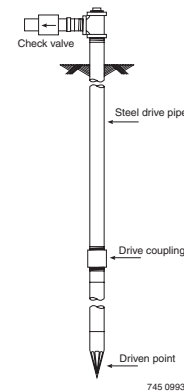

FIGURE 2 - DRIVEN POINT INSTALLATION
1. Connect the suction pipe to the drive point (Figure 2). Keep horizontal pipe run as short as possible. Use PTFE pipe thread sealant tape on male pipe threads. Multiple well points may be necessary to provide sufficient water to pump.
2. To aid priming with well point installations, install a check valve as shown in Figure 2. Ensure the check valve's flow arrow point toward the pump.